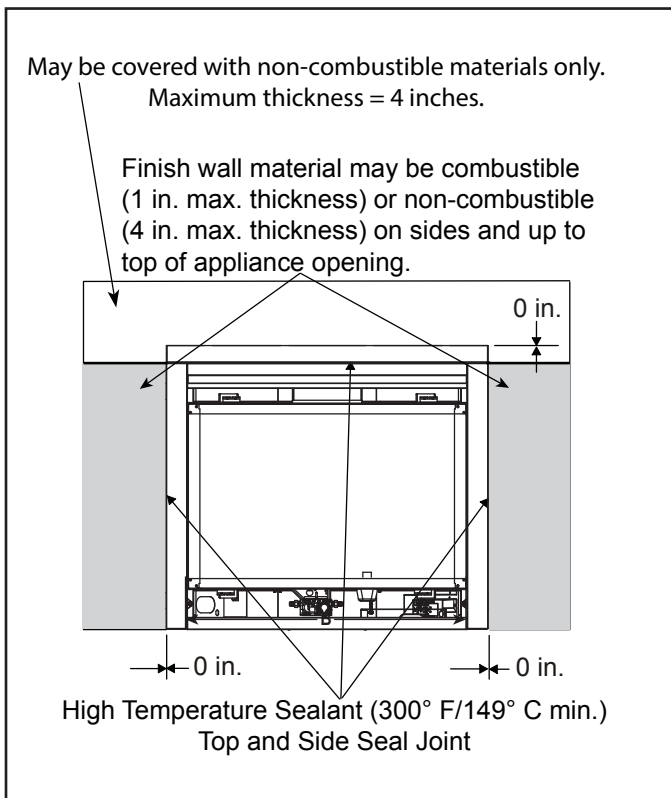

Figure 10.1 Non-combustible Facing Diagram
- Seal joints between the finished wall and appliance top and sides using a 300 °F minimum sealant. Refer to Figure 10.1.